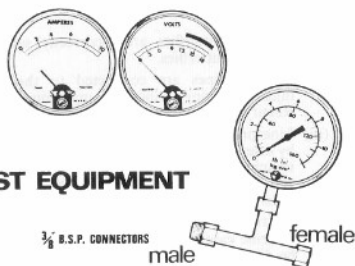

Fig. 13
- (i) Pressure gauge (see Figure 13) scaled for reading up to at least 160 lbf/in² (1103-20 kN/m²).